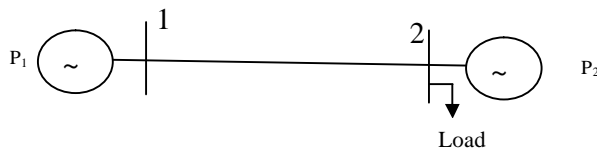

Figure 1
2. A two-bus system is shown in Fig.1. If a load of 125 MW is transmitted from plant1 to the load, a loss of 15.625 MW is incurred. Determine the generation schedule and the load demand if the cost of received power is Rs. 24/MW hr. Solve the problem using coordination equations and the penalty factor method approach. The incremental production of the plants are